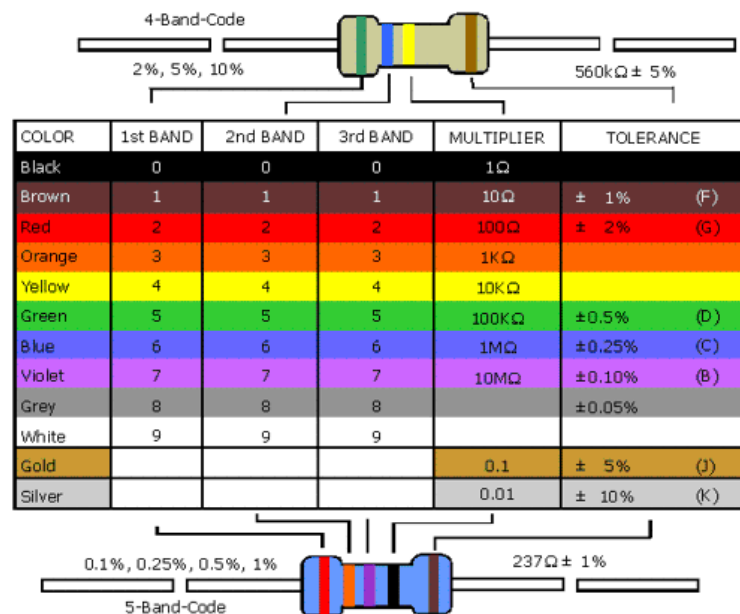

Figure 2.1: Resistor colour codes.
1. Use the digital multimeter (DMM) to measure the resistance of two resistors (R1 and R2) of nominal values 1 k Ω and 390 Ω . Use Figure 2.1 to select the resistors.